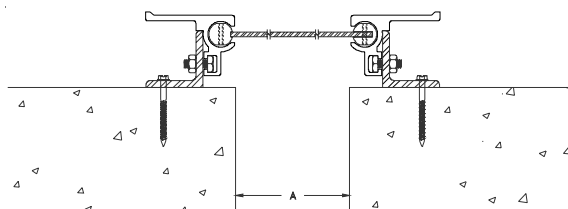

Figure 5
**STEP 8.** Select the base member assembly anchors provided by the factory, and using the provided anchors to attach the base member assemblies to the concrete. Repeat this procedure for the opposite base member (see Figure 5) and for each subsequent base member pair to be installed.